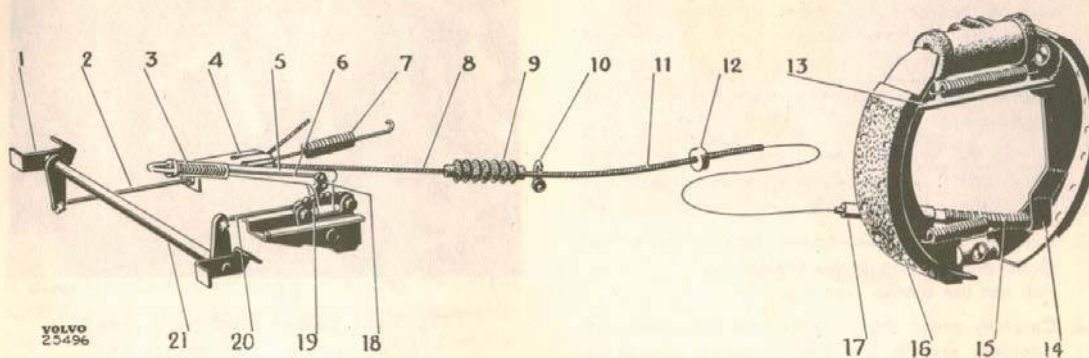

Fig. 7-9. Handbrake
The arrangement of the handbrake is shown in Fig. 7-9. The handbrake lever (5) is placed in the floor on the outside of the driving seat. The movement of the lever is transmitted via pull-rod (20), shaft (21) with lever and pull-rod (2) to the clevis (4). From here the